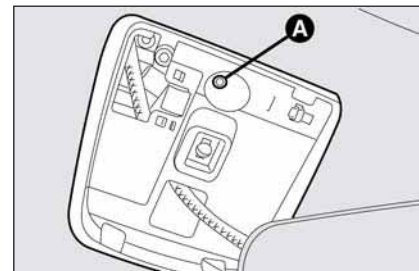

fig. 92
- fit the wrench into slot **A-fig. 92** and turn it clockwise to open the sunroof and counter-clockwise to close it.